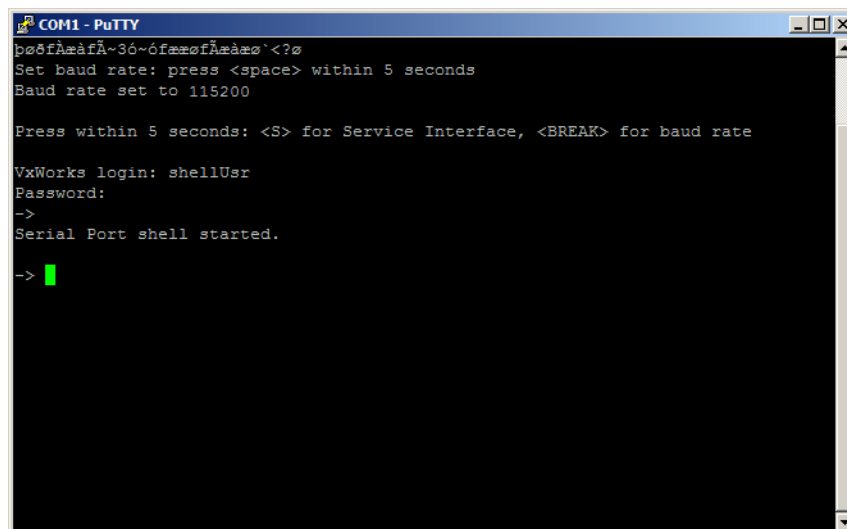

Figure 5-103 Serial shell command prompt
6. Enter Shell User and Password to log into controller as shown Figure 5-103